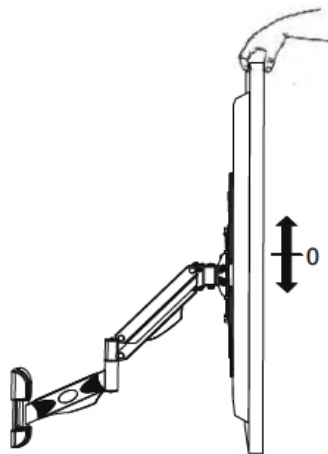

Figure 12
4. Place the height of the TV to the optimal view angle, see **Figure 12**.